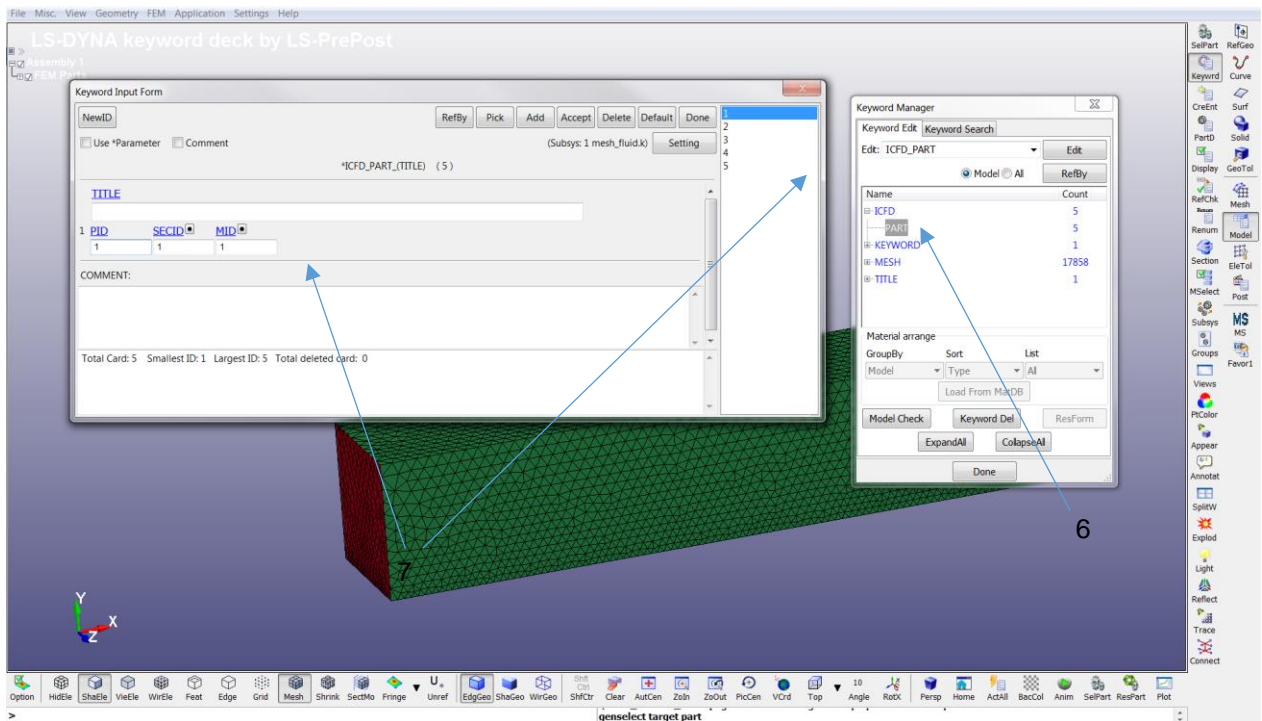

Figure 4 The \*ICFD\_PART keyword.
6. Next change the \*ICFD\_PART keywords so that each part has the section id and material id set to 1. Do this by going to Model/Keywrd and select the \*ICFD keywords and double click on PART see Figure 4.
7. In the new window, see Figure 4, you will see five parts to the right and when selecting each part you will see which section id and material id it has. To set the section id and material id to 1 select part 1 and then change SECID and MID to one and then press Accept. You will get a warning that the section id and material id does not exist, but just press "ignore" since they will be added in the fluid\_main.k file. **Note that if you do not press Accept before going to the next part the change will not be saved.** Do this for all parts.
4. Now open the file fluid\_main.k again and you will see the model. The first two keywords that we will define are \*ICFD\_SECTION and \*ICFD\_MAT. Select Model/Keyword like in Figure 4, but now you have to select "All" in the Keyword manager otherwise you will only see the keywords in your model. Then go to the \*ICFD group and double click on the \*ICFD\_SECTION keyword and press accept. This keyword must be defined, but it does not do anything in the current version.